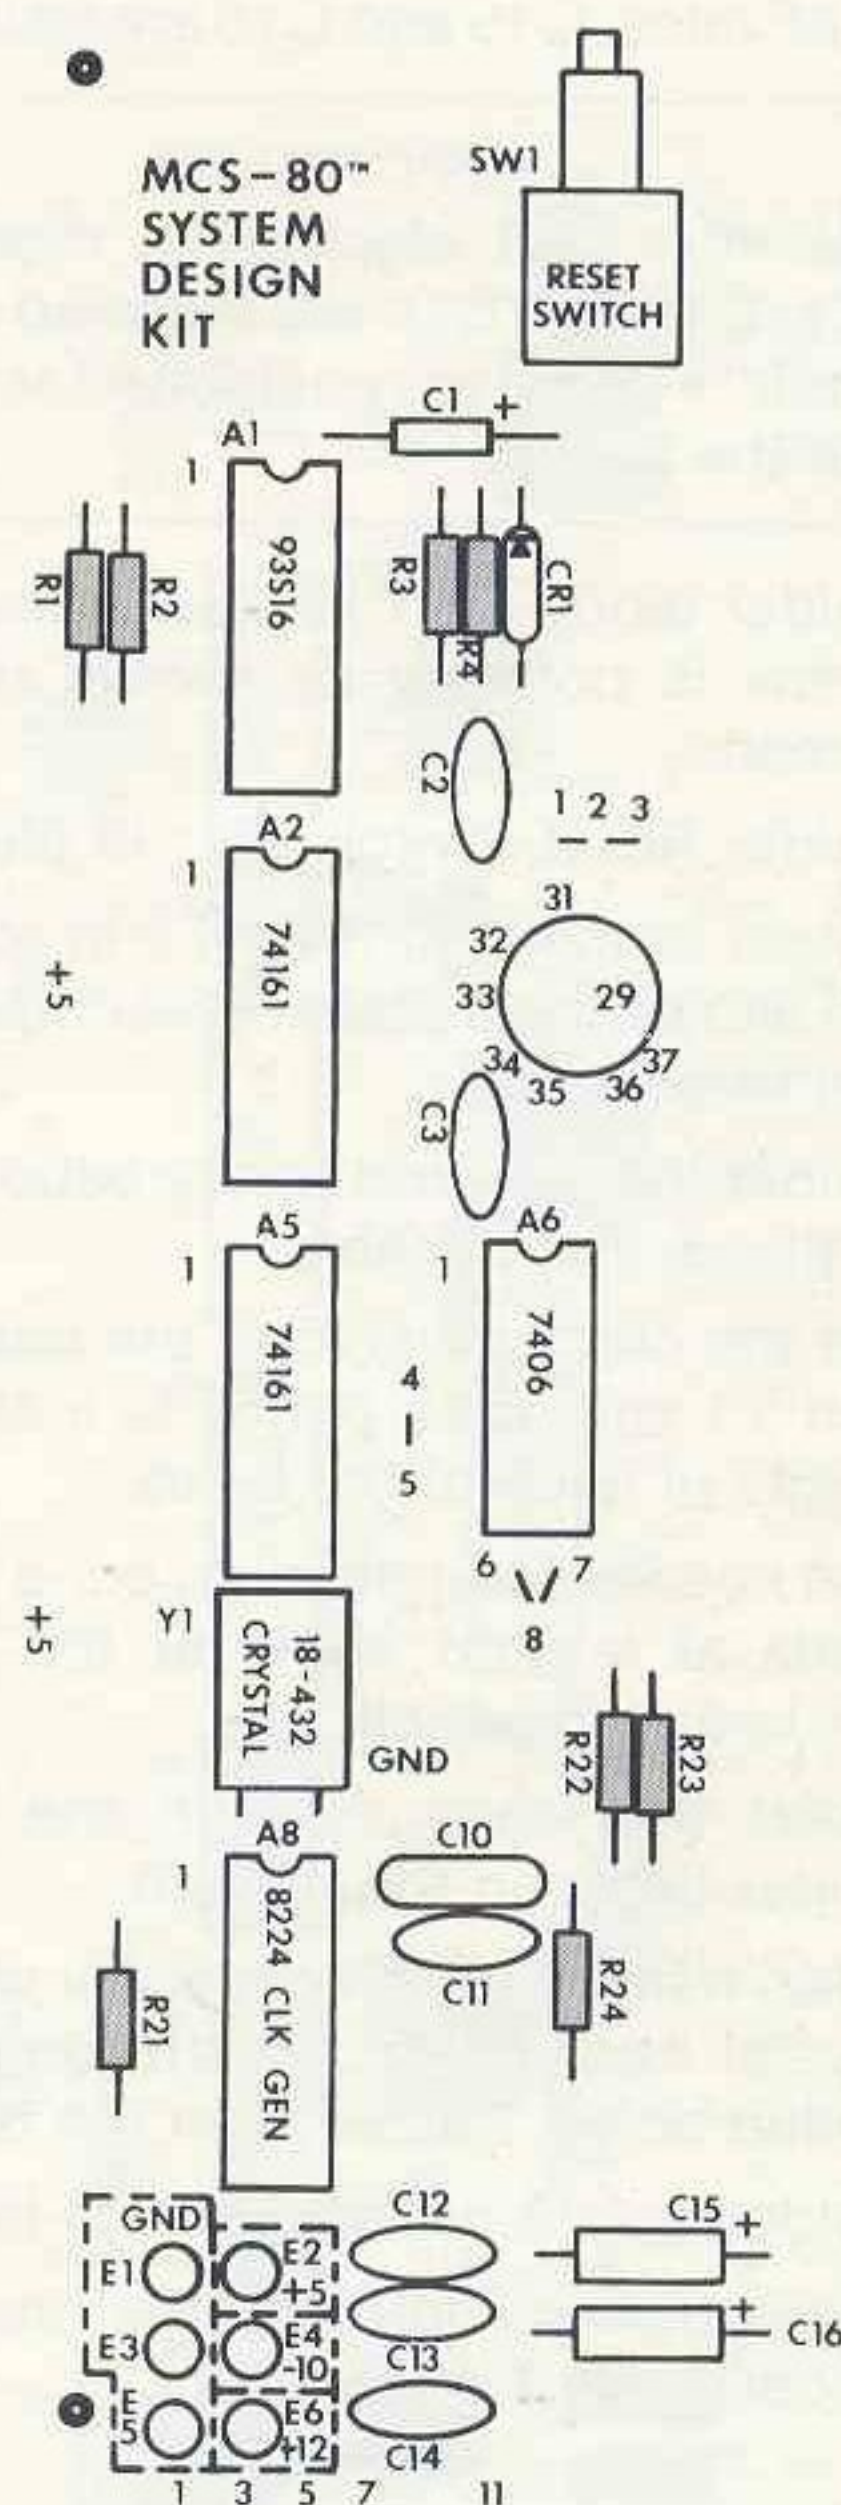

Figure 2-3. Construction Figure #1.
- ❑ Referring to Table 2-4, solder resistors R1-R4 and R21-R24 in place. Figure 2-3 shows this area of the board.